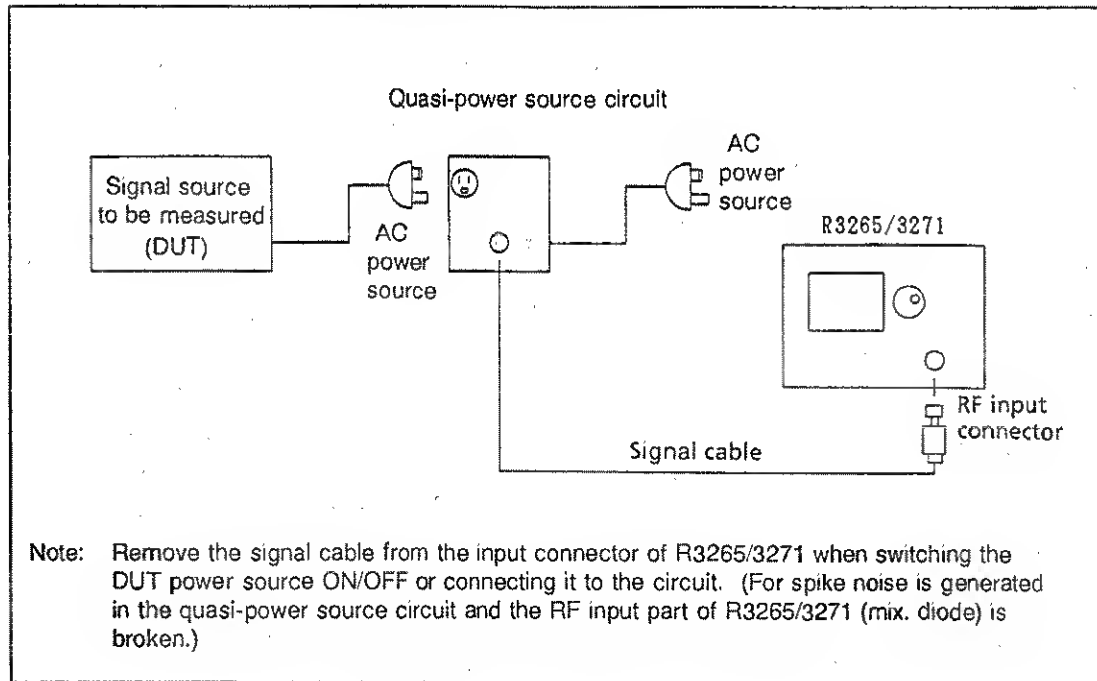

Fig. 5.11-3 Measuring the Power Source Terminal Voltage
- ① Appears when input of time domain data is attempted with frequency domain data already input. Press **CONFIRM** to continue the input operation, and the preset frequency domain data is cancelled.
- ② Appears when input of frequency domain data is attempted with time domain data already input. Press **CONFIRM** to continue the input operation, and the preset time domain data is cancelled.
(4) Measuring the power source terminal voltage (using a quasi-power source circuit)
- ① Connect the signal line to be measured (DUT) as illustrated in Fig. 5.11-3 :